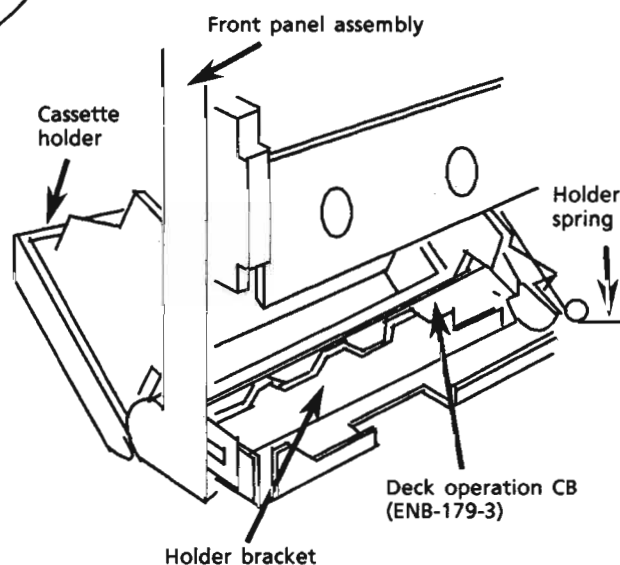

Figure 6
2. Remove the holder springs (Figure 6).
2. Remove the 2 screws ③ fixing the circuit board to pull out the circuit board upward.
■ Removing the deck operation circuit board (ENB-179-3: Figure 6)